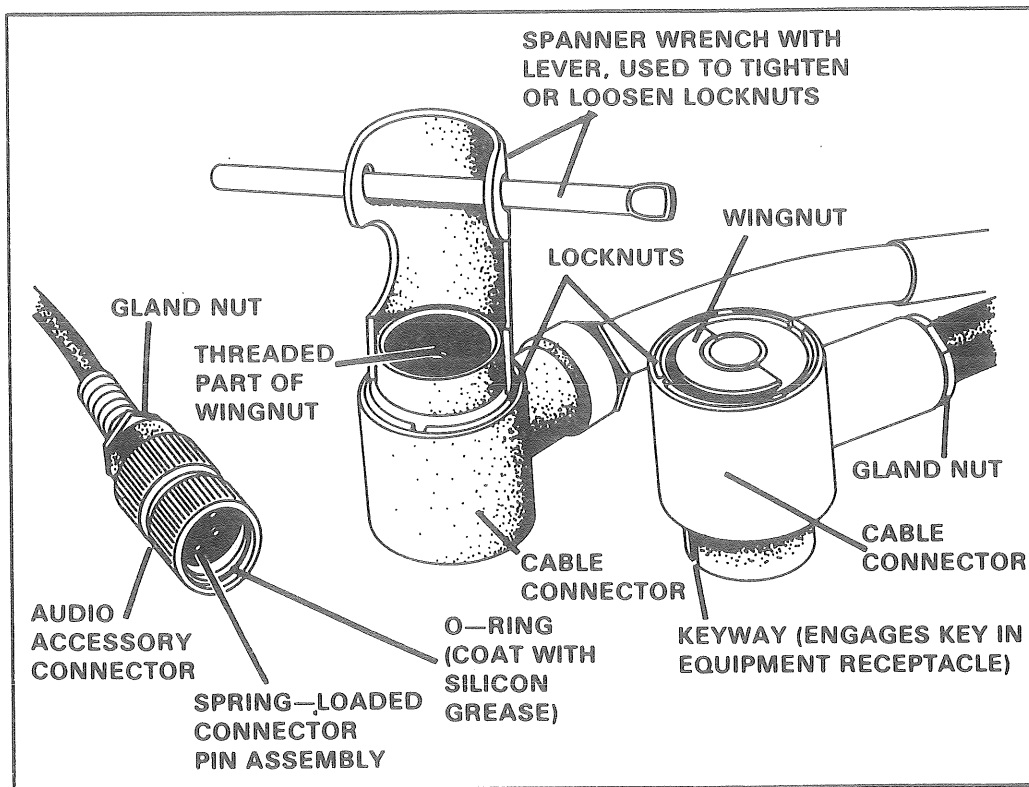
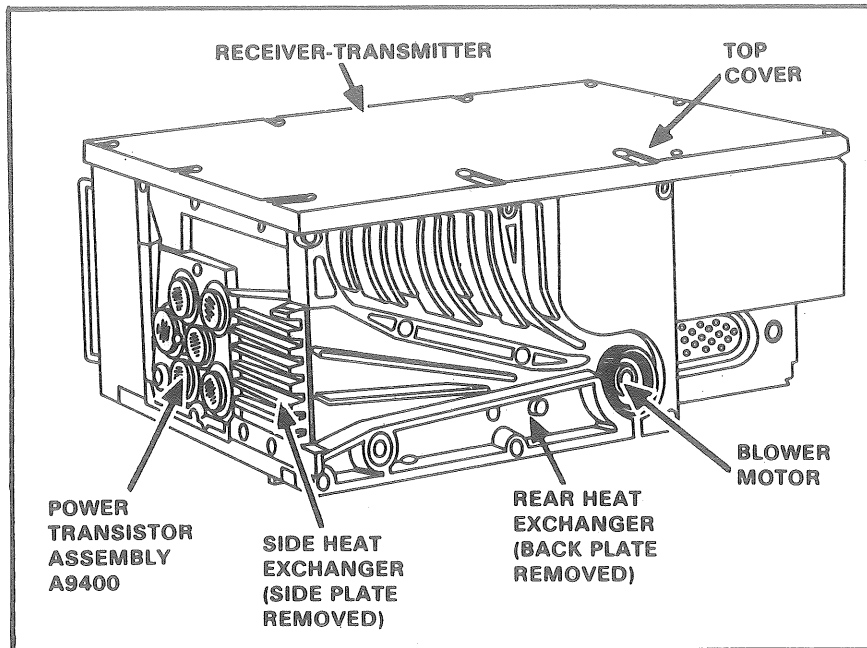

Figure 2. Detail of cable connectors.
Figure 3. Heat exchanger on RT-524/246.
- a. Put a light coat of silicone grease on the "O" ring in the cable connectors (fig 2).
- (1) Tighten gland nut, if provided (fig 2).
- (2) Properly position and tighten spring-loaded connector pin assembly (fig 2).
- (3) Identify any of the three small keys that are broken.
- h. Clean the heat exchanger (fig 3). The operation is optional.
- (1) In dusty areas, the cleaning should be performed more often than quarterly.
- (2) In dry, cold, or nondusty areas, this operation may be performed at quarterly intervals.